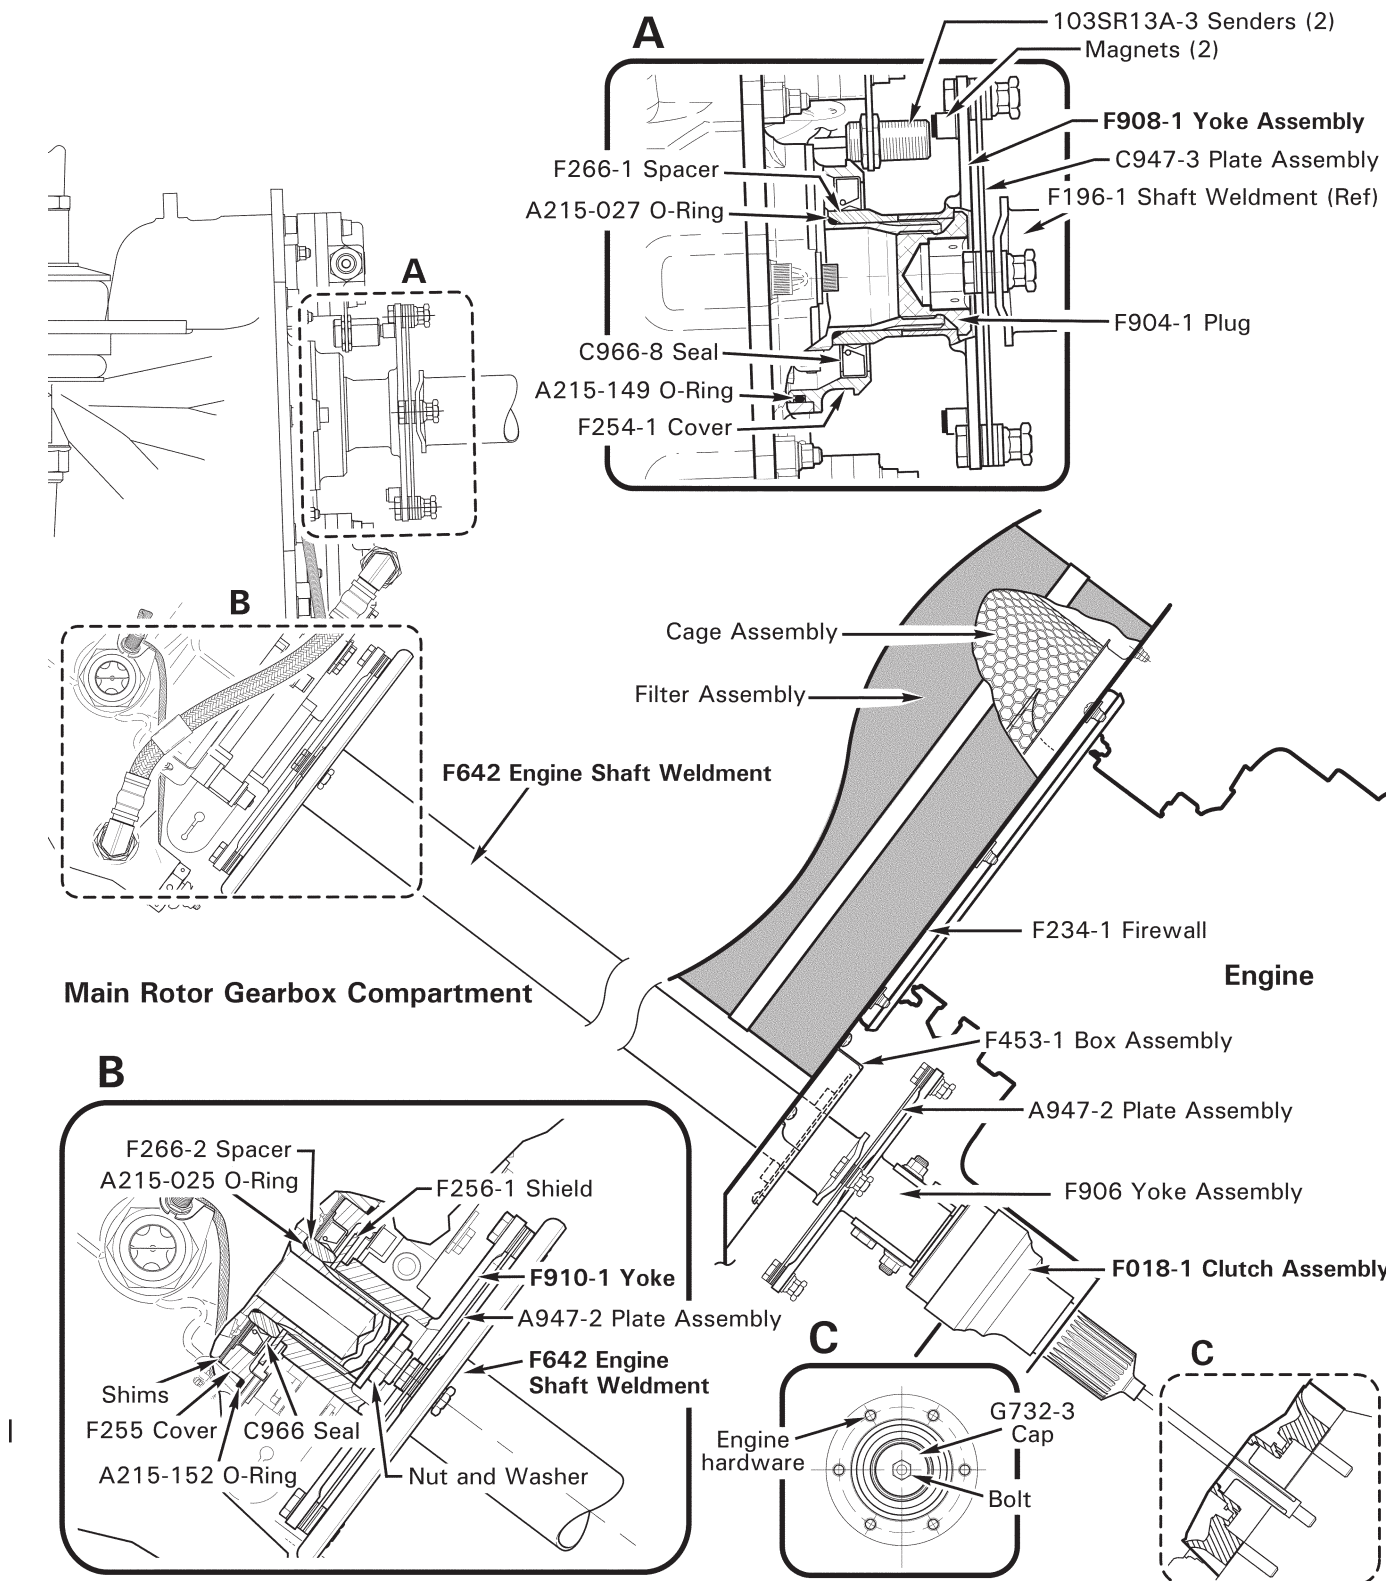

FIGURE 63-1 ENGINE DRIVELINE
3. Refer to Figure 63-1. Remove hardware securing F453-1 box assembly to F234-1 firewall.
1. Refer to Figure 63-1. Position F642 engine shaft weldment in helicopter, and install hardware securing shaft weldment to aft A947-2 plate assembly. Standard torque nuts and palnuts per § 20-32, and torque stripe per Figure 5-1.
2. Refer to Figure 63-1. If not previously accomplished, remove hardware securing forward A947-2 flex plate assembly to F910-1 (main gearbox) yoke and F642 (engine) shaft weldment forward flange. Remove flex plate, and temporarily support forward portion of shaft weldment.
2. Refer to Figure 63-1. Mark F906 yoke assembly and A947-2 plate assembly, to facilitate installation. Remove plate assembly, noting hardware removed.
1. Refer to Figure 63-1. Lubricate F018-1 clutch assembly splines and clamping face using A257-1, -9, or -12 before installing.
4. Refer to Figure 63-1. Remove hardware securing F908-1 and F910-1 yoke assemblies to plate assemblies, leaving plates attached to shaft weldments. Note hardware removed.
3. Refer to Figure 63-1. Remove forward C947-3 flex plate assembly, noting hardware removed. Remove intermediate C947-3 flex plate assembly, noting hardware removed. Carefully maneuver fan shaft aft to access main gearbox's F908-1 yoke.
1. Refer to Figure 63-1. Remove F266-1 spacer and replace A215-027 o-ring, as required. Reinstall spacer.
3. Refer to Figure 63-1. Remove hardware securing A947-2 (forward) plate assembly to F910-1 yoke assembly, and A947-2 (aft) plate assembly to F642 shaft weldment, noting hardware removed. Support weldment to allow clearance for yoke removal.
1. Refer to Figure 63-1. Replace A215-025 o-ring, as required.
4. Remove hardware and spacers securing brake assembly mounting bars to gearbox cartridge. Remove G033-1 brake assembly F256-1 shield (see Figure 63-1).